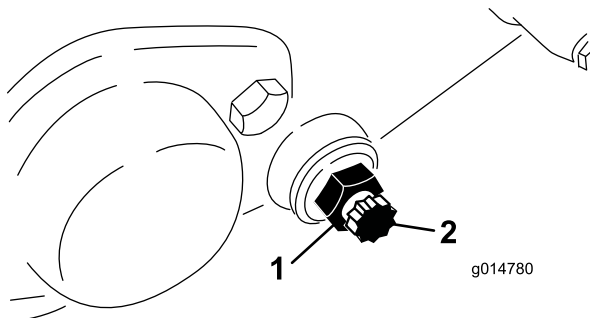

Figure 55
3. On each side of the machine loosen the jam nut securing the bedbar bolt (Figure 55).
4. Remove each bedbar bolt allowing the bedbar to be pulled downward and removed from the machine. Save the 2 nylon and 2 stamped steel washers on each end of the bedbar (Figure 55).